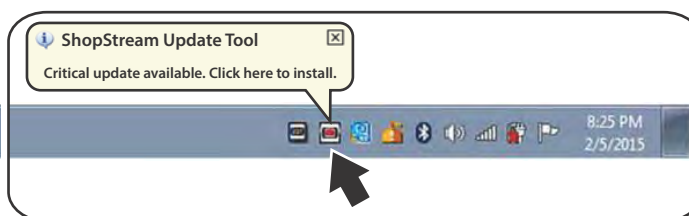

Figure 15-8 Typical update installation message
When a software update is ready for installation, an installation update message will appear (Figure 15-8). You can select the message or the SST icon from the Windows taskbar notification area at anytime to start the software update installation process.
1. Select the software update available message (Figure 15-8), or the SST icon from the notification area.